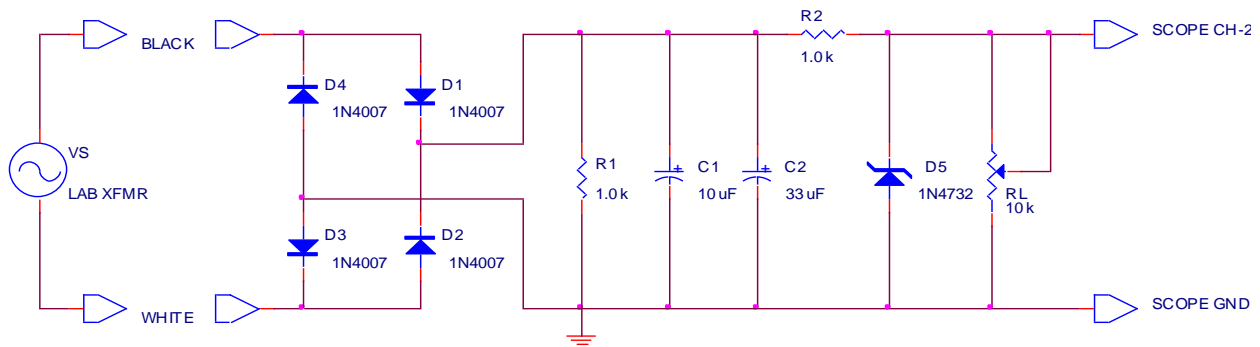

Figure E2.6
**Set-Up** Disconnect the channel-2 oscilloscope probe from the breadboarded circuit of Procedure 5, but leave the remainder of the circuit connected. Add the components R2, D5, and RL as shown in Fig. E2.6 below. The lab transformer should be still connected to apply a 10 V peak sinewave to the breadboard using the black and white banana jacks. The overall circuit of Fig. E2.6 uses the following parts:
The middle lead on the potentiometer RL is the wiper, that is, the moveable terminal represented by the arrow in Fig. E2.6. The potentiometer RL is used in the above circuit to simulate the effect of a varying load resistance. Familiarize yourself with the proper directions to turn the knob on RL to increase or to decrease the load current.
Connect the channel-2 probe of the oscilloscope to the cathode (banded end) of D5, as shown in Fig. E2.6, and adjust the oscilloscope to display the output waveform.